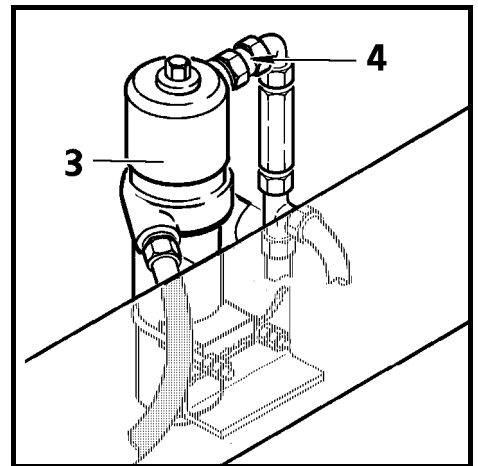

Fig. 3
The air dryer in the air pressure circuit (Fig. 3, pos 3) dries and filters the pressurised air.
Disconnect the air pressure line on the outlet to the air tank (Fig. 3, pos. 4).